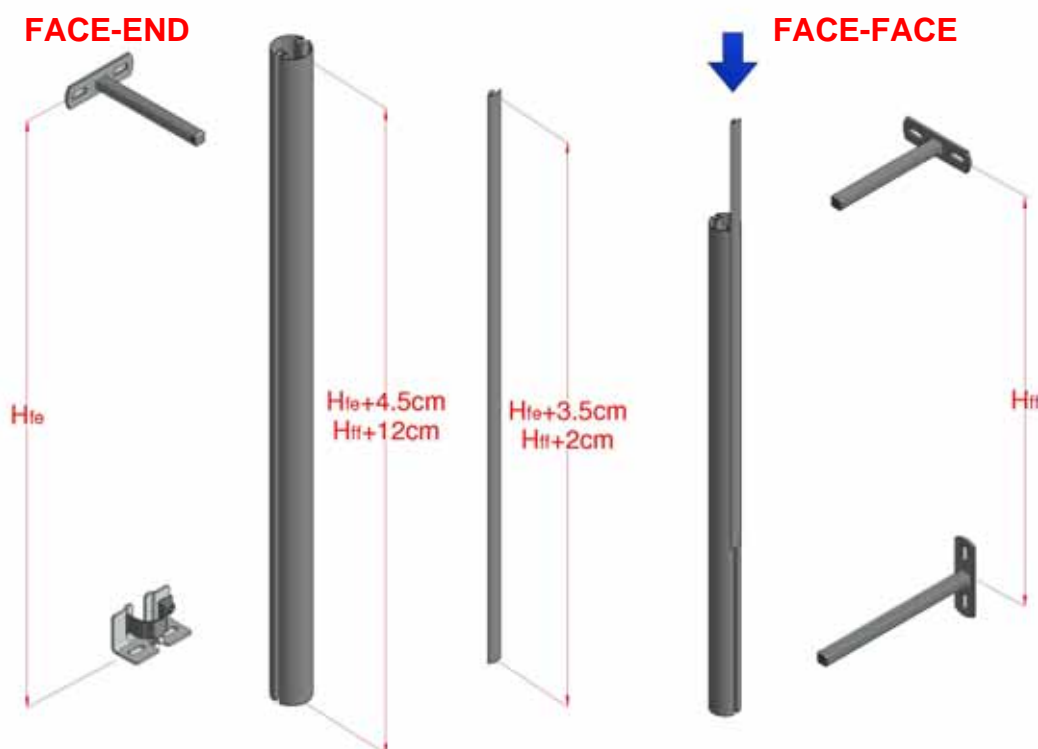

Figure 22, Outer Control Tube Assembly
4.12 Outer Control Tubes are required at each end for the End Covers and at all intermediate bay uprights. Cut the relevant tube to length as shown in Figure 22 and de-burr the sharp edges from the ends. Cut and insert the Protective Insert to all intermediate tubes. Cut four additional Tubes for the End Covers but do not fit Protective Insert to these.